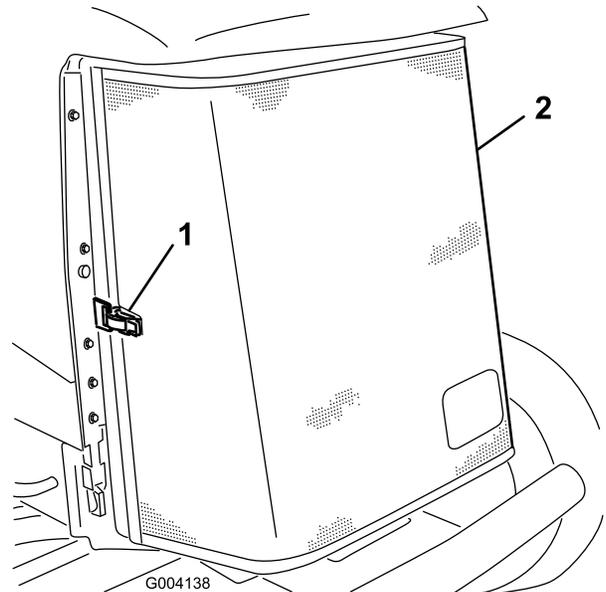

Figure 84
3. Unlatch the clamp and pivot open the rear screen (Figure 84).